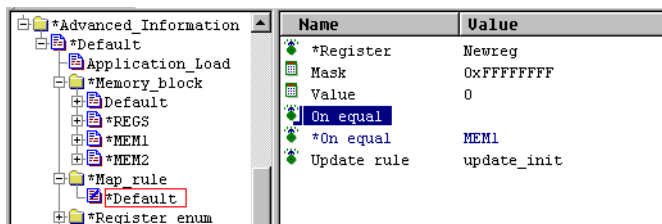

Figure 3-32 Creating a map rule
4. Set the value of On_equal to MEM1. (Figure 3-32)